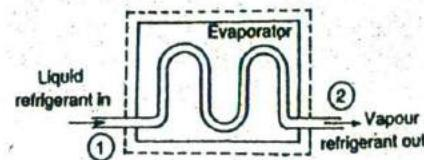

Fig. 3.31. Evaporator.
3. *Evaporator*. The evaporator, as shown in Fig. 3.31, is a device used in refrigeration systems in which the liquid refrigerant passes, receives heat and leaves as vapour refrigerant. For such a system, the change in kinetic and potential energies is negligible. Also there is no workdone by the system. In other words,